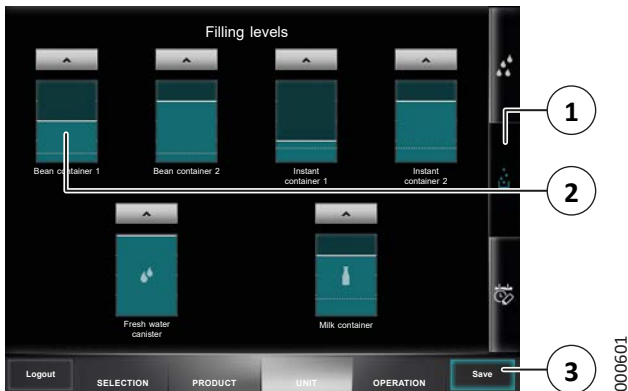

Fig. 35: Filling levels
4. The “Limit value” button (1) is used to set a percentage at which a warning is issued for the filling level.
5. Press the “Apply” button (3) to adopt the settings and return to the previous screen.
6. Save your changes using the “Save” button (3) (see Fig. 35).